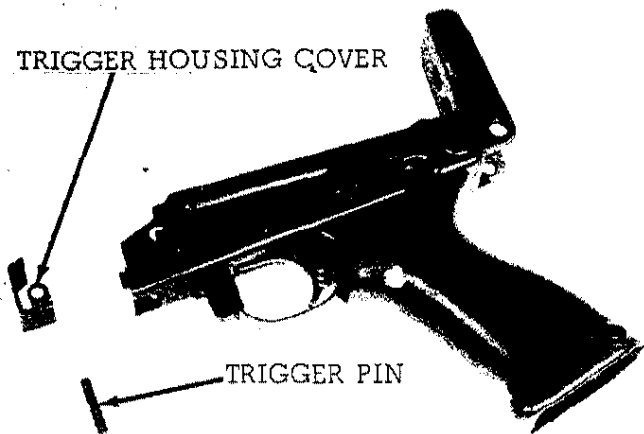

FIGURE 27. REMOVING THE TRIGGER HOUSING COVER
(2) Push out the trigger housing cover pin (figure 27), and remove the trigger housing cover.
(4) Replace the trigger housing cover (figure 27), and the remaining trigger pins. (Trigger pins are interchangeable).